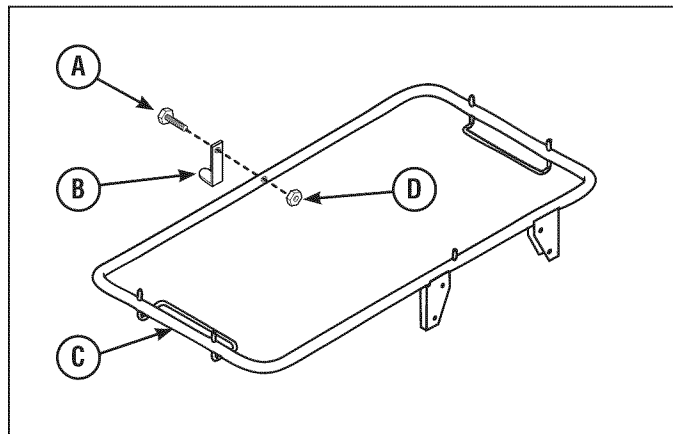

Figure 3
1. Insert capscrew (A, Figure 3) through hole of catcher latch (B) and grass catcher frame (C). Secure with locknut (D).